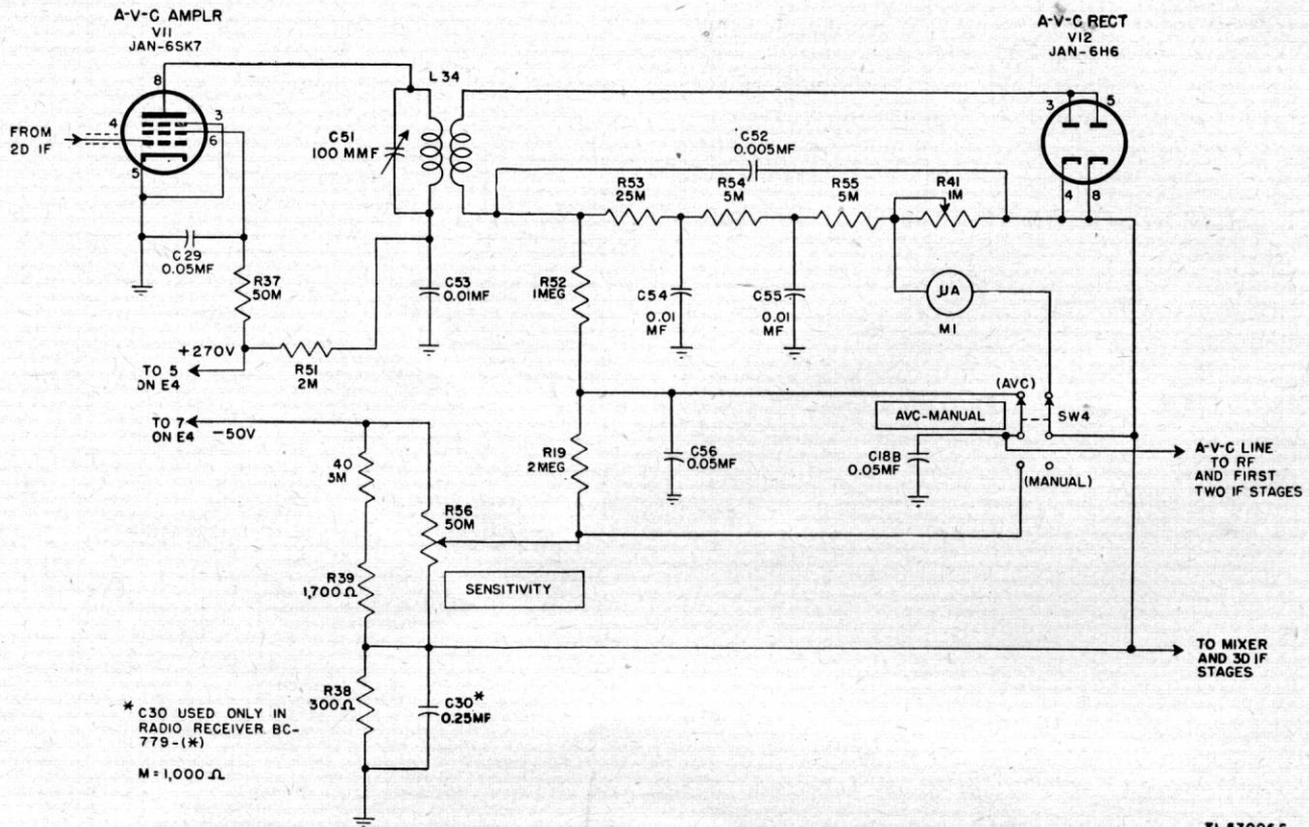

Figure 31. Radio Receiver BC-779-B, functional diagram of a-v-c stages.
a. MIXER TUBE JAN-6L7. For simplicity, capacitor C71, main tuning ganged capacitor C1C, and band spread ganged capacitor C2C are represented as a single variable capacitor C across the inductance-trimmed secondary of r-f transformer L18. Signal voltages across C are applied through 600-mmf capacitor C11 to signal grid G1 (top cap) of pentagrid mixer Tube JAN-6L7. Fixed bias from the voltage divider (fig. 31) is applied through a filter circuit (10,000-ohm resistor R10 and 0.01-mf capacitor C12) and 500,000-ohm grid resistor R9 to the signal grid. Screen grid G2 and G4 (pin 4) forms a screen about injection grid G3 (pin 5), and the h-f oscillator output is coupled through 95-mmf capacitor C13 to the injection grid. Since the screen grid shields the signal and injection grids from one another, the tube electron stream is modulated independently by the r-f and oscillator signals. Heterodyne action produces sum and difference frequencies in the mixer output. The primary of transformer T1 is tuned by C21 to the 465-kc *difference* frequency to which the i-f amplifier is also tuned. The i-f voltage across the secondary winding of transformer T1 is applied to the crystal filter.
## 65. A-V-C Circuit (fig. 31)
and to the control grid (pin 4) of the a-v-c amplifier stage V11 (fig. 31). V7 and V11 have a common grid circuit, including fixed bias. The suppressor and cathode of V11 are grounded; screen voltage is applied to pin 6 through 50,000-ohm series-dropping resistor R37; and the screen is bypassed by 0.05-mf capacitor C29. Plate (pin 8) voltage is applied through 2,000-ohm filter resistor R51 and the primary of transformer L34. The primary of L34 is tuned to 465 kc by 100-mmf capacitor C51, and capacitor C53 (0.01-mf) bypasses high frequencies to ground. The transformer secondary is untuned.